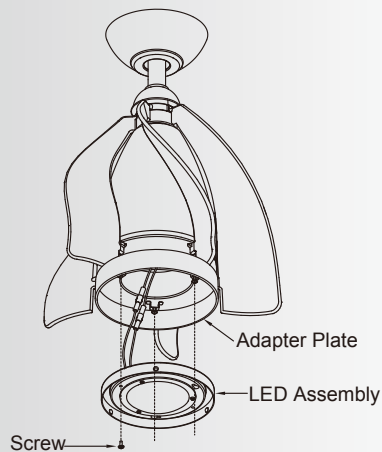

Fig. 23
Step 3. Tuck the connections neatly into the LED assembly. Align the key holes on the LED assembly with the 2 screws on the adapter plate. Turn the LED assembly until it locks in place at the narrow end of the key holes. Securely tighten all three screws. (Fig. 23)